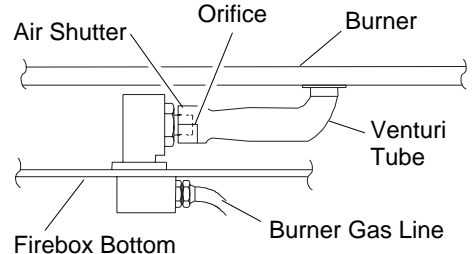
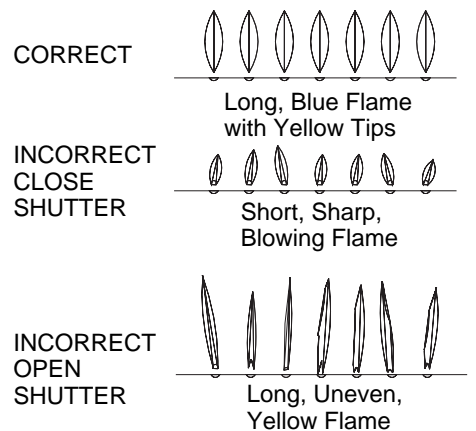

Figure 50 - Connecting Venturi and Orifice
Figure 51 - Burner Flame Patterns
The air shutter, located at the underside of the main burner (see Figure 50), has been factory preset to the proper air-to-gas ratio which results in an even, clean burning flame across the burner (see Figure 51). If readjustment is necessary, you can restore the proper air-to-gas ratio by loosening the air shutter screw and rotating the air shutter until the proper flame setting is achieved (the shutter's normal setting is "full opened"). Do not forget to retighten the air shutter screws.
**CAUTION:** Make certain the orifice is inside the venturi tube's air shutter, see Figure 50, page 19.